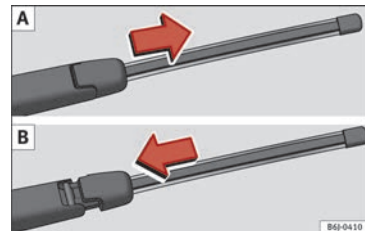

Fig. 74 Removing and fitting the rear window wiper blade.
- Slide the blade adapter in the direction of the arrow and remove the blade » **Fig. 74 A**.
- Place the blade as shown in » **Fig. 74 B** and slide the adapter along until it engages.